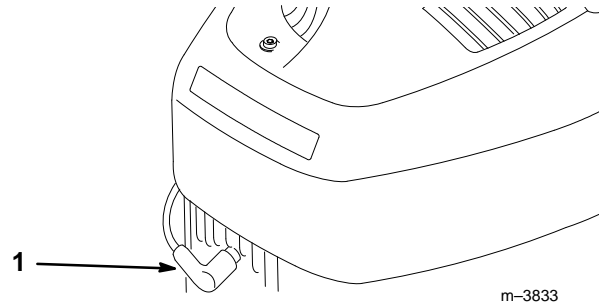

Figure 51
3. Remove spark plug (Fig. 51) and spin engine rapidly using starter to blow excess oil from the cylinder. Clean spark plug or replace if cracked, broken or electrodes are worn.
7. Reconnect spark plug wire (Fig. 51).